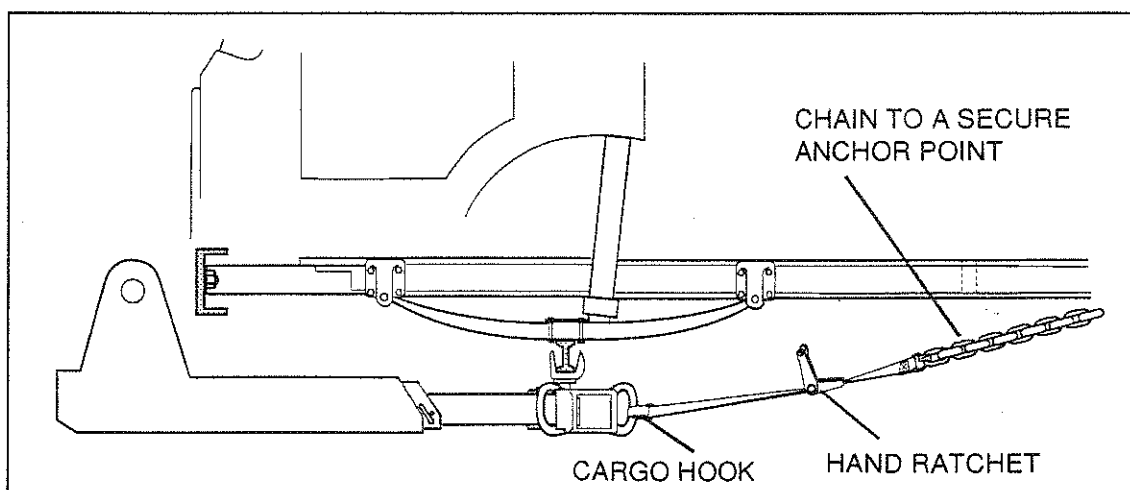

Figure 11 - Restraint against acceleration
- 3.3.4 When the recovery vehicle accelerates, the casualty will tend to get left behind. This is a similar effect to 3.3.3. above, but lesser in extent. This can be countered by using a nylon strap and hand ratchet. Ideally the ratchet should have a short 'tail' fitted with a means of attaching to a chain from an anchor point. The nylon strap should have a cargo hook to connect to the fork pedestal. Tension with the hand ratchet. See Figure 11. Again it is recommended that the path of the restraining strap should lie near to horizontal.